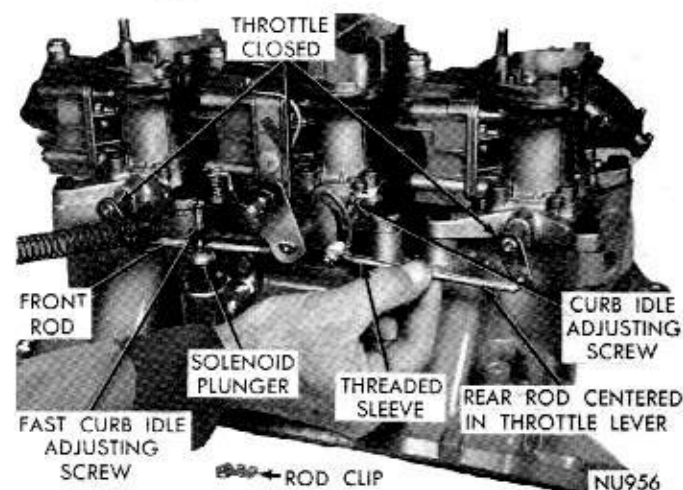

Fig. 30—Outboard Carburetor Throttle Rod Adjustment
(1) Remove air cleaner (if not previously done), then remove outboard throttle connector rod clips and disengage front and rear rods from throttle levers (Fig. 30).
(2) If this adjustment is to be done on vehicle, be sure ignition switch is **OFF**. (This de-energizes fast curb idle solenoid so that clearance is obtained between plunger and fast curb idle adjusting screw.)
(3) Close throttle valves on the two outboard carburetors and the center carburetor. Hold in closed position.
(4) Shorten or lengthen the front and rear connector rods by turning rod in or out in threaded sleeve, until rod end can enter hole in throttle lever evenly (Fig. 30).
(5) Install throttle connector rod in lever and secure with clip.